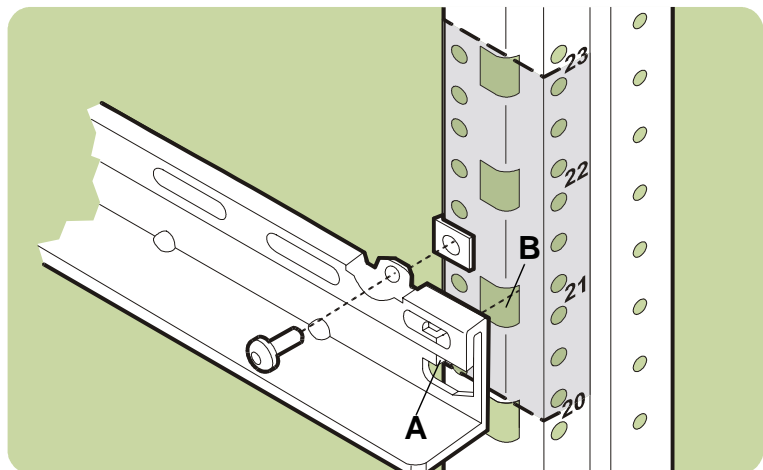

Fig. 14. Installing rails in HP Rack System/E
5. On the ends of the both rails, insert the rail tab (see Fig. 14, A) into the column hole (B).